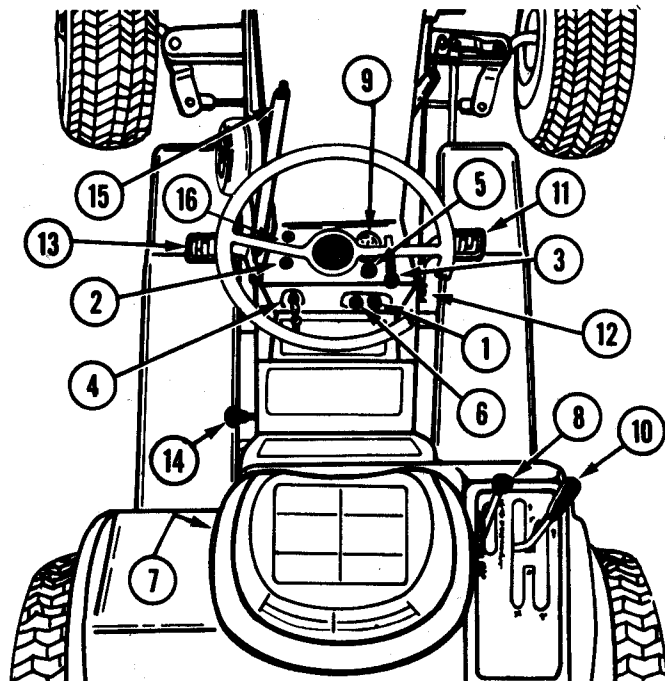

FIGURE 1
**1** **Implement Power Control Switch** (Figure 1). Pull the switch out (ON) to engage the electromagnetic clutch to drive the mower and front mounted attachments.
*NOTE: This switch ① must be pushed in (OFF) to disengage the drive before the engine will start or to allow engine to keep running if the operator gets off the seat.*
**2** **Implement Power Indicator Light** (Figure 1). This light glows red when the implement power control switch ① is pulled out to indicate that the mower or front mounted attachment is engaged.
**3** **Throttle Lever** (Figure 1). Raise the lever to increase engine speed. Lower the lever to decrease engine speed.
**4** **Ignition Switch** (Figure 1). Turn the key fully clockwise to start the engine and release when the engine starts. Turn the key counterclockwise to stop the engine.
**5** **Choke Control** (Figure 1). Pull choke control out when attempting to start a cold engine or when starting during cold weather. When engine starts, gradually push choke in. Normally, it is not necessary to use the choke when starting a warm engine.
**6** **Light Switch** (Figure 1). Pull the switch out to turn on the front and rear lights. The ignition key must be turned on before the lights work.
**7** **Seat Safety Interlock Switch** (Figure 1) This switch, located in the seat, is closed by the operators weight. If the operator leaves the seat for any reason while the PTO is "ON" or the shift lever is not in "NEUTRAL" the PTO clutch and engine ignition are both shut off. When the PTO is "OFF" and the shift lever is in "NEUTRAL" leaving the seat will not cause the engine to stop.
**8** **Hydraulic Lift** (Figure 1) (Model S-14G only). This lever controls the hydraulic system used to raise and lower attachments. The lever has four positions — UP, HOLD, DOWN and FLOAT. The normal out-of-use position is the "HOLD" position, whereby the attachment will not raise or lower. When it is desired to raise the implement, move the lever to the "UP" position, to lower the attachment move the lever to the "DOWN" position. Place the lever in the "FLOAT" position to allow the attachments to follow the ground contours.
**9** **Ammeter** (Figure 1). The ammeter indicates the rate of battery charge or discharge. The indicator should register on the (+) side of the dial when the engine is running at any speed above a slow idle. When the engine is idling or with a fully charged battery, the ammeter may not show charge. Should the ammeter register on the (-) side of the dial for an extended period of time with the engine running, it indicates the alternator is not charging the battery. Check the battery connections or contact your dealer.
**10** **Gear Shift Lever** (Figure 1) This lever selects any of four forward speeds or reverse.
**11** **Brake Pedal** (Figure 1) When this pedal is depressed the friction brakes will be applied to stop the tractor, **DEPRESS THE CLUTCH PEDAL ⑬ BEFORE ATTEMPTING TO STOP THE TRACTOR WITH THE WHEEL BRAKES.**
**12** **Parking Brake** (Figure 1) The parking brake is a latch that locks the brake pedal. To apply the parking brake, depress the brake pedal, flip up the parking brake latch. ⑫ To disengage the parking brake, depress the brake pedal and push down the latch.
**13** **Clutch Pedal** (Figure 1) Depressing this pedal removes the idler pulley from the drive belt and disconnects the engine from the drive train. Depress the clutch to shift gears or before attempting to stop.
**15** **Manual Lift Lever** (Figure 1) (Model S-10G only). To raise attachment, press the thumb release, pull lever rearward and lock in the raised position. To lower attachment, press the thumb release and move lever forward. This lever is spring loaded to the rear position when the manual lift assist springs are engaged.
**16** **Implement Reset Button** - Press to restart PTO in the event the operator leaves the seat momentarily. Under these conditions the PTO and engine ignition will be shut off. If the operator sits down before the engine stops revolving, the engine will restart, but the PTO will not start until the reset button ⑯ is pushed. If the engine stops, the normal starting procedure (Implement switch ① OFF; Shift lever ⑩ in NEUTRAL) must be followed.
- Be sure the Implement Power Control Switch (1) Figure 1, is pushed in (OFF).
- Raise throttle lever (3) Figure 1, to approximately 1/3 fast position.
- Pull choke control (5) Figure 1, all the way out if engine is cold. If engine is warm, little or no choke may be required.
- Turn ignition key (4) Figure 1, clockwise all the way. Release key as soon as the engine starts and push choke button in. In cold weather it may be necessary to push choke in gradually until engine warms up. If engine fails to start on the first attempt, turn key to off, wait a few minutes and try again. Do not operate the starting motor continuously for more than 30 seconds at a time.
1. Move the gear shift lever (10) Figure 1, in "Neutral" position, depress the brake pedal and set the parking brake (Figure 4).
2. Disengage Implement Power Control Switch (1) Figure 1, and rear driven attachments.
4. Lower the throttle lever (3) Figure 1, and allow engine to idle for a short period before turning it off.
5. Turn the ignition key (6) Figure 1, counterclockwise to stop engine.